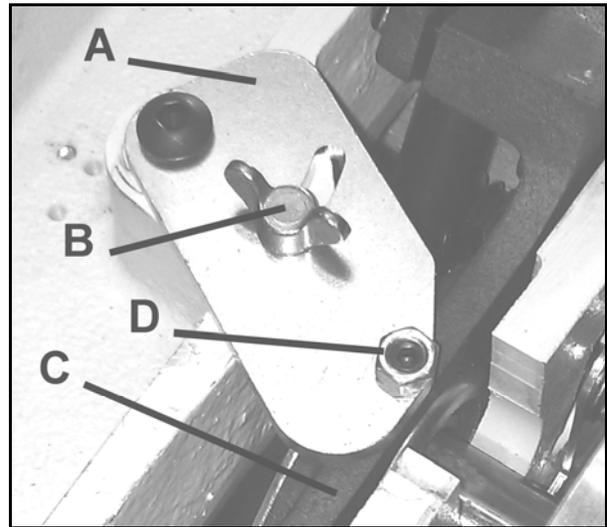

Figure 36
There is a quick 0 setting plate (A, Figure 36) for rear drum located on the outboard support bracket. You can adjust this plate for future uses after you have established zero for the rear drum, as follows.
1. Swing the plate out by loosening the wing screw (B, Figure 36) to atop the sliding plate (C, Figure 36).
2. Tighten wing screw. Loosen hex nut (D, Figure 36) and adjust set screw to just slightly contacts with the sliding plate.